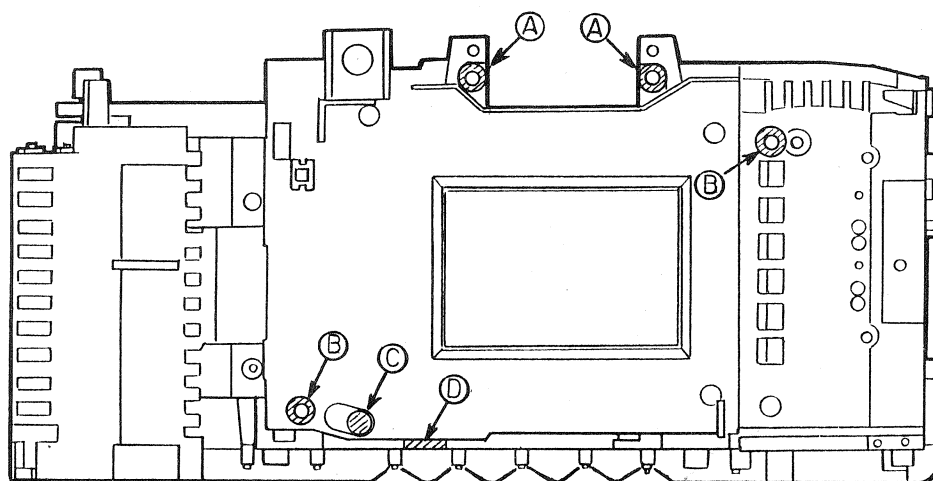

Fig.55
- When the new type Mirror Box Ass'y is to be installed in the Type A Body, remove the washers at the points ㊸ only, leaving the washers at the points ㊶ and ㊷ and the tape at the point ㊹ as they are. (See Fig.55)